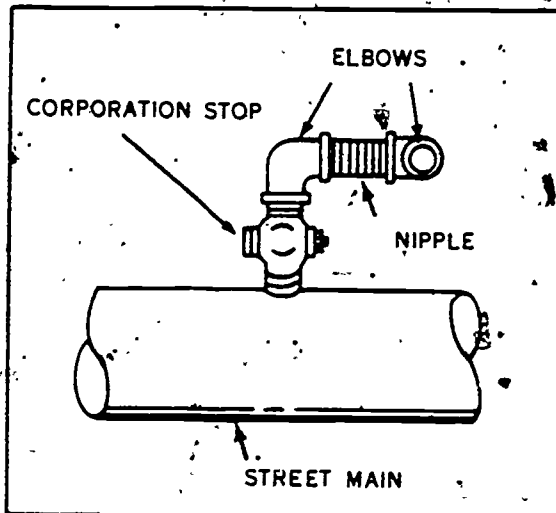

Figure 1-23. Typical swing joint.
**Swing joint.** The swing joint is another type of flexible connection that is commonly used with a galvanized iron or steel service line. As you can see in figure 1-23, this connection consists of two elbows separated by a short section of pipe or nipple. Install